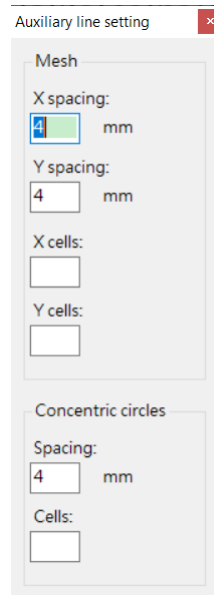

Fig 5-81 Spacing and Cell setup for mesh and Concentric circles.
- (7) Auxiliary line setting : individually setup the mesh or concentric circle spacing and cell size. See Fig 5-81